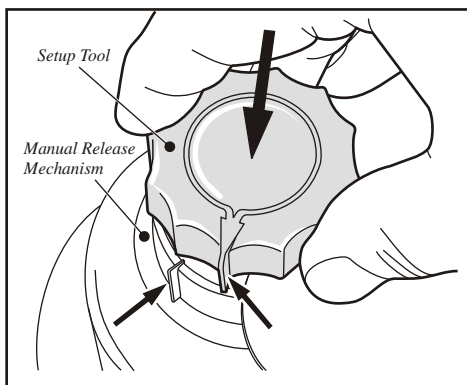

Figure 26 Fit Setup Tool into Release Mechanism
6. Insert the origin setup tool into the release mechanism with a twist action, until the tool is snugly seated (see Fig. 26).